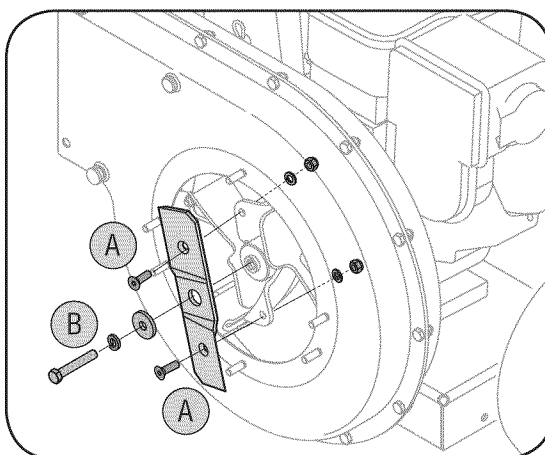

Figure 14
- Remove the hex bolt, lock washer, and flat washer to completely free shredder blade. See Figure 14.